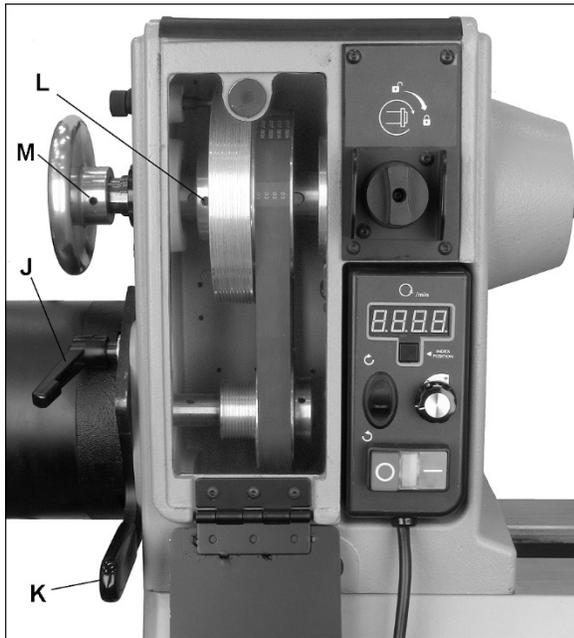

Figure 8-9: sheave/belt alignment
3. Loosen pivot lock handle (J, Figure 8-9) and lift up tension handle (K, Figure 8-9) to raise motor. Tighten pivot lock handle (J, Figure 8-9) to hold motor in raised position.
5. Loosen pivot lock handle (J, Figure 8-9) and lower motor to tension belt. Be sure that the Poly-V grooves of belt seat properly in the corresponding groove of sheave. Do not over tension; a very light pressure on the tension handle (K, Figure 8-9) is adequate to prevent belt slippage.
6. Tighten pivot lock handle (J, Figure 8-9).
The motor and spindle sheaves are aligned by the manufacturer, but if any service is performed that affects their alignment it is very important that they be realigned. To realign them, loosen the two set screws on spindle sheave (L, Figure 8-9) with a hex wrench, and slide spindle sheave into proper position. Retighten set screws.
2. Loosen lock handle (J, Figure 8-9) and lift up handle (K) to raise motor.
3. Tighten lock handle (J) to hold motor in raised position. Slip belt off pulleys.
4. Loosen two set screws on handwheel (M, Figure 8-9) with a hex key, and pull handwheel off headstock spindle.
9. If replacing spindle sheave, loosen two set screws (L, Figure 8-9), and slide sheave off spindle. Install new spindle sheave, loosely securing the two set screws. Make sure the sheave is oriented properly.
12. Reinstall handwheel and tighten set screws (M, Figure 8-9).
14. Align new sheave (see sect. 8.11) then tighten two set screws (L, Figure 8-9) securely on sheave.
15. Loosen lock handle (J) and allow motor to lower. Do not over-tension; very light pressure on tension handle (K) is adequate to prevent belt slippage.
16. Retighten lock handle (J).